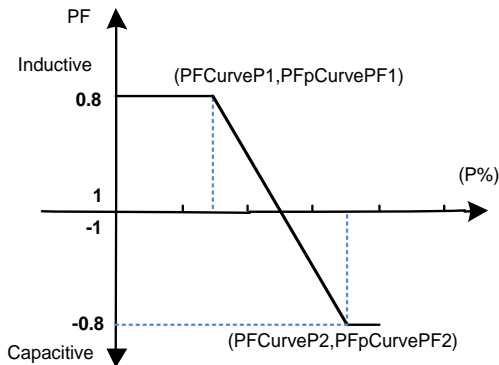

Figure 6-16 PF(P) Curve Mode
2. **PFpCurve functions:** PFp curve mode. Using the curves to set the PFp setpoints (See Figure 6-16).